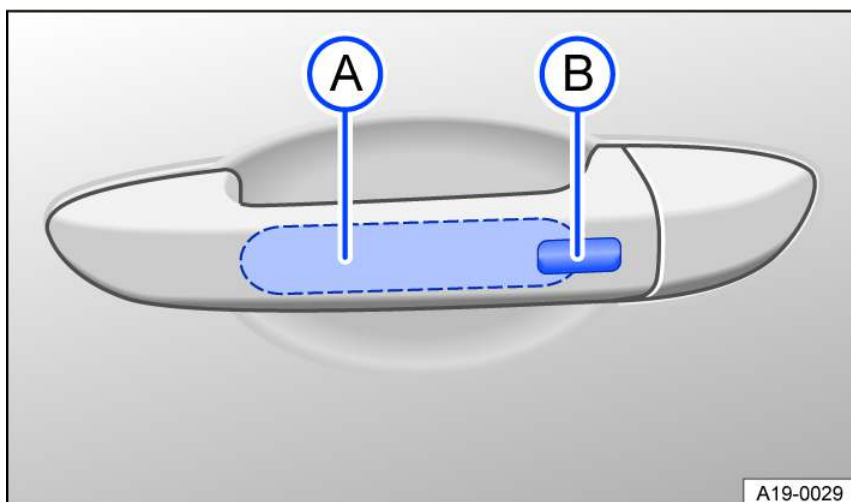

Fig. 55 In door handle: sensors.
- Touch the sensor fig. 55 **A** on the inside of the door handle.
- Touch the sensor fig. 55 **B** on the outside of the door handle.
- Then, within 5 seconds of locking the vehicle, touch the sensor on the outside of the door handle once fig. 55 **B**. Do not grasp the door handle during this process.
- Hold your finger on the driver's or front passenger's door handle sensor fig. 55  for several seconds until the windows and power sunroof are closed.